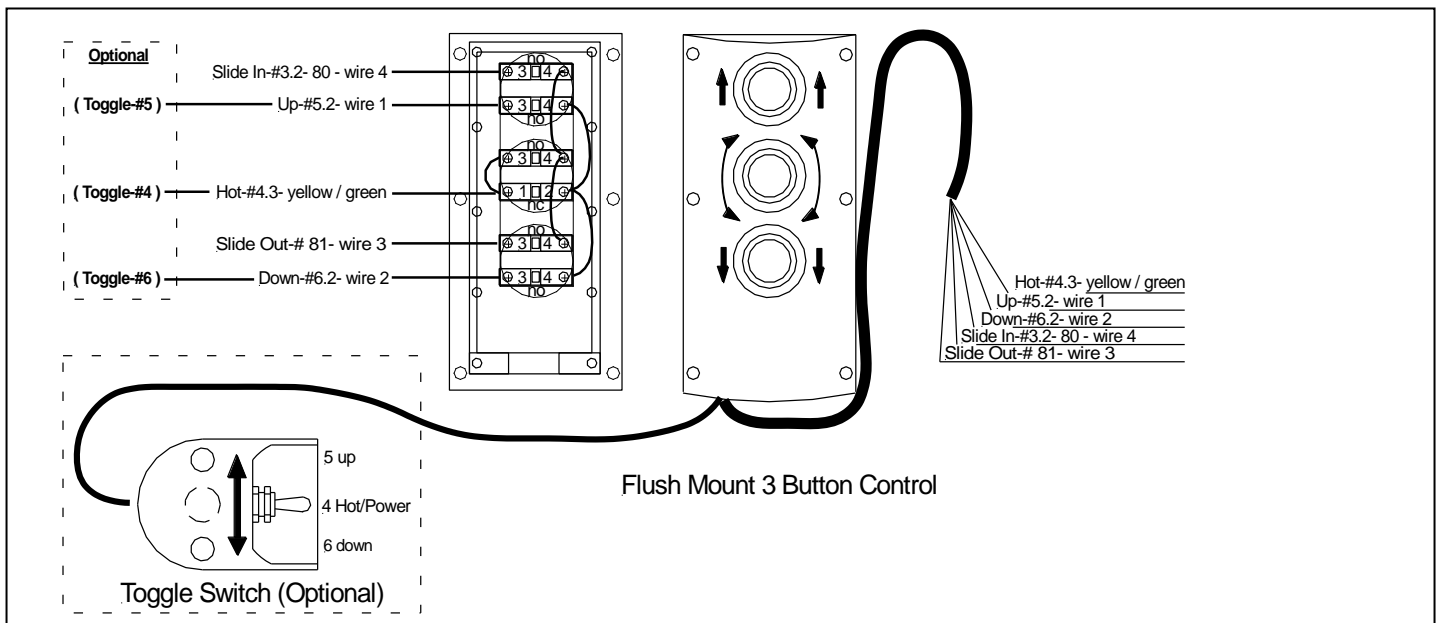

Figure 18 Flush mount Control box wiring
- Run the 5-wire harness, coming out of the main wire loom, to the control box. Run the wire inside the body and connect wires as shown in Figure 18.